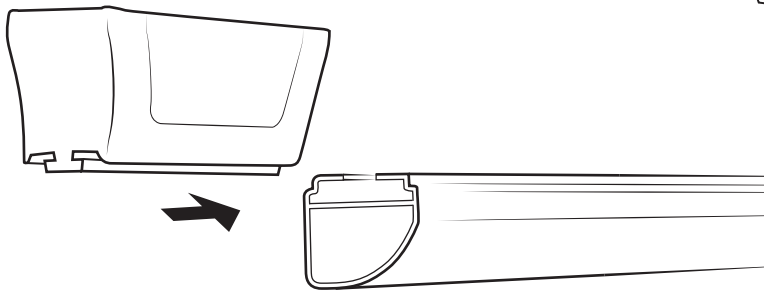

Figure 2
2. Slide End Rail Feet identified with the part number M513 into the End Rails (3 each) and the Side Rail Feet into the Side Rails (4 each) as shown in Figure 2.